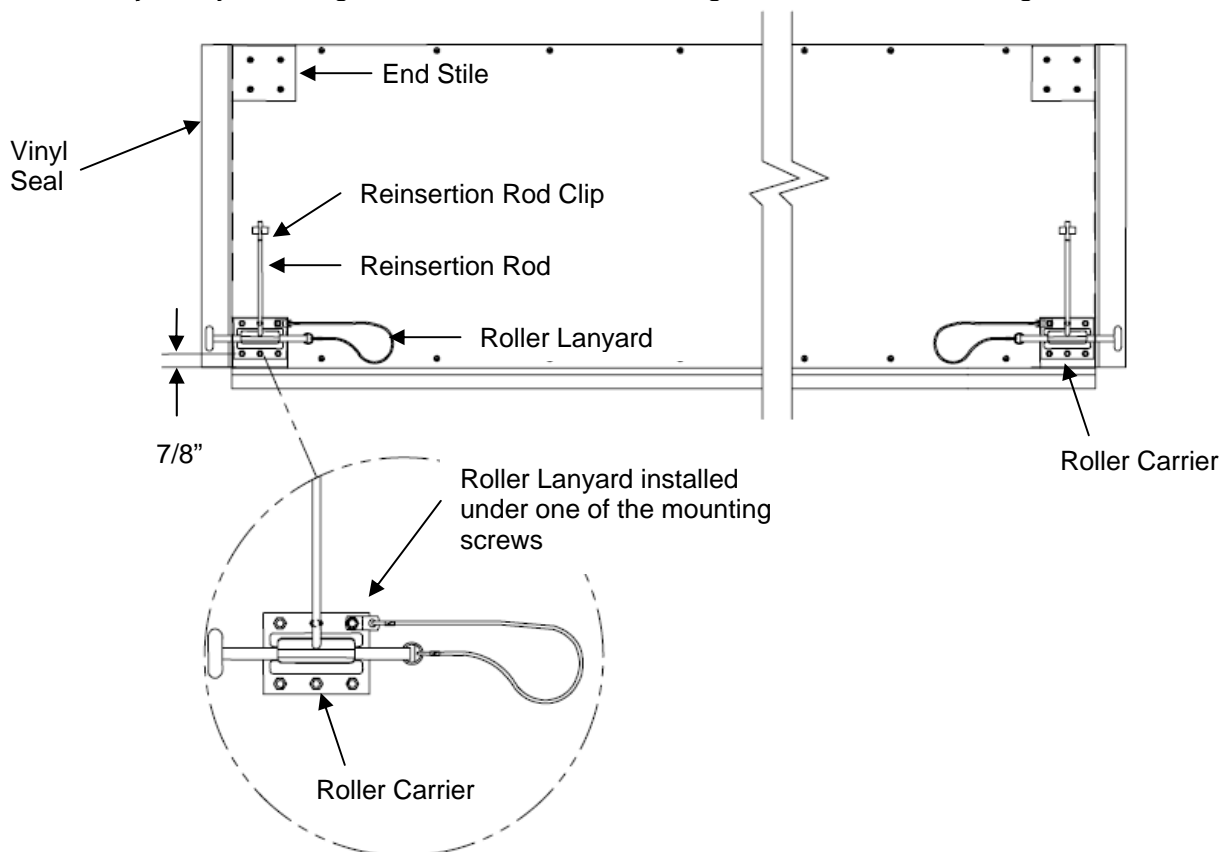
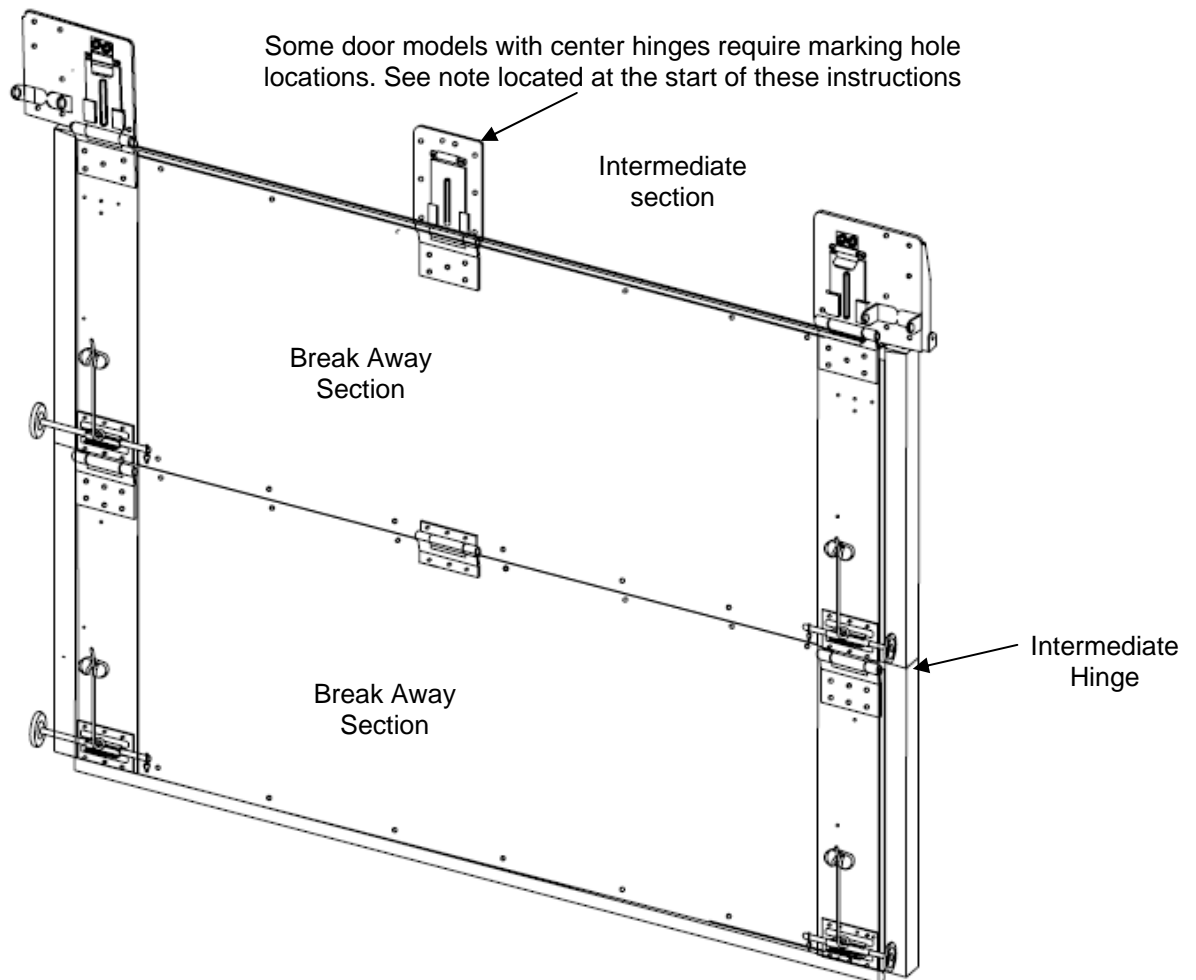

FIGURE 1
FIGURE 2
Insulated door models use protective plastic sheets that cover the location of center hinges. If your door is supplied with center hinges as shown in Figure 2 or 3 and there is no cut out for the hinge location use the following method to mount center hinges:
Place an intermediate section on a saw horse that will be used to mount the cable assemblies. (Figure 2 or 3 marked intermediate section). Mount the center hinge or hinges at locations punched with center holes at the bottom of the section. Place the mating top of each break away section against this intermediate section and use the bottom leaf of the mounted center hinge as a template for locating the mounting holes on the breakaway section. Once these holes are located, mark the holes so the appropriate hinge can be mounted later during the installation process.
- 1) Install the roller carriers onto the bottom section of the door using six  $\frac{1}{4}$ " x  $\frac{3}{4}$ " long self drilling screws through each bracket (with double bottom breakaway sections, the bottom section may be identified as the one with the astragal and astragal retainer). The reinsertion rod should be positioned at the top of the roller bracket as indicated in the callout in Figure 1. The mounting holes for the brackets are pre-punched in the end stiles. The first row of mounting holes is located  $\frac{7}{8}$ " up from the bottom of the end stiles. Make sure to attach the end of the roller lanyard by securing it under one of the mounting screws as shown in Figure 1.
- 2) Install the reinsertion rod clips to the end stiles, as shown in Figure 1, using the small self drilling screws supplied with the brackets.
With the bottom breakaway section mounted in the opening, install the second break away section as shown in figure 2 below. Mount the intermediate hinge as shown with twelve ¼" self drilling screws. Repeat lanyard and reinsertion rod installation for the two intermediate hinges as shown in Figure 1.